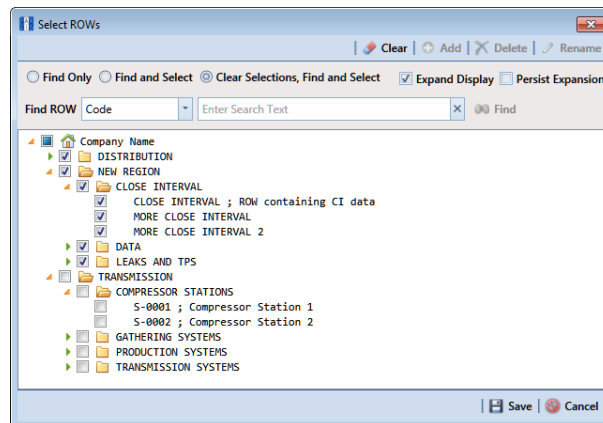

Figure 7-60. Select ROWs
- 1 Select one or more pipeline segments in the *Select ROWs* window (Figure 7-60). Select pipeline segments with facilities you want to work with, then click **Save** to close the window.